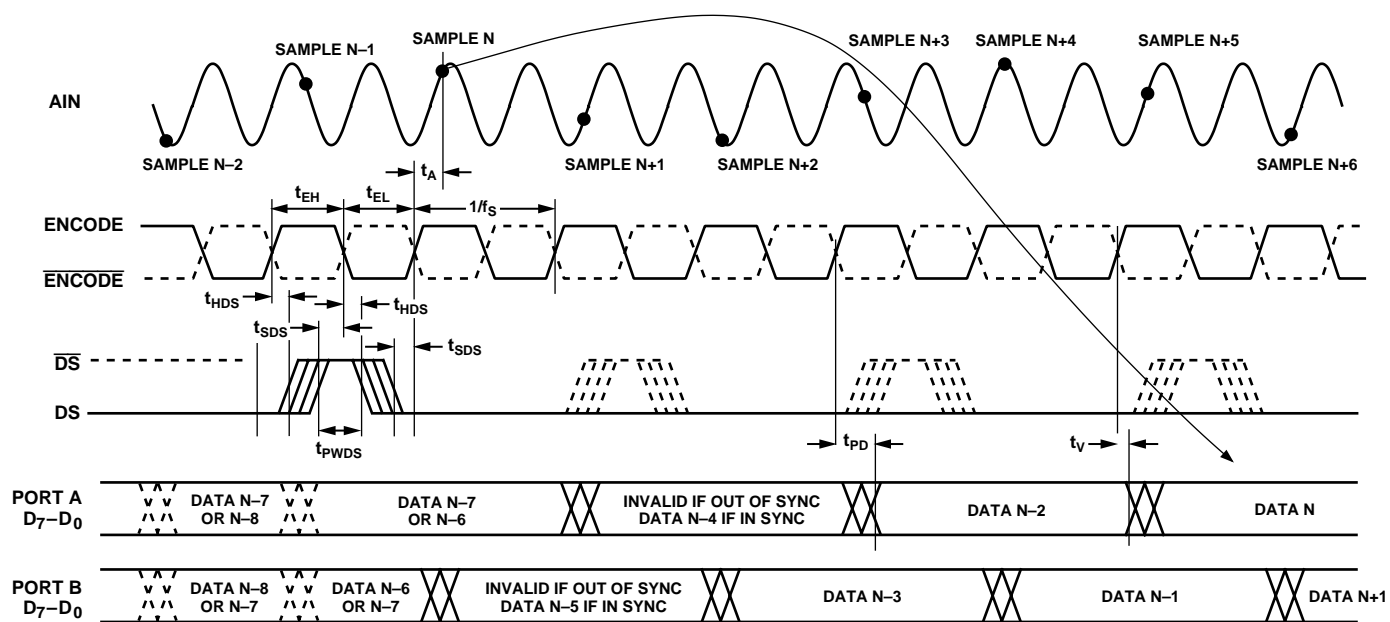

Figure 2. Timing—Dual Channel Mode
In Dual Port Mode ($\overline{\text{DEMUX}} = \text{LOW}$), the conversion results are alternated between the two output ports (Figure 2). This limits the data output rate at either port to 1/2 the conversion rate (ENCODE), and supports conversion at up to 200 MSPS with TTL/CMOS compatible interfaces. Dual Channel Mode is required for guaranteed operation above 100 MSPS, but may be enabled at any specified conversion rate.
The multiplexing is controlled internally via a clock divider, which introduces a degree of ambiguity in the port assignments. Figure 2 illustrates that, prior to synchronization, either Port A or Port B may produce the even or odd samples. This is resolved by exercising the Data Sync (DS) control, a differential input (identical to the ENCODE input), which facilitates operation at high speed.